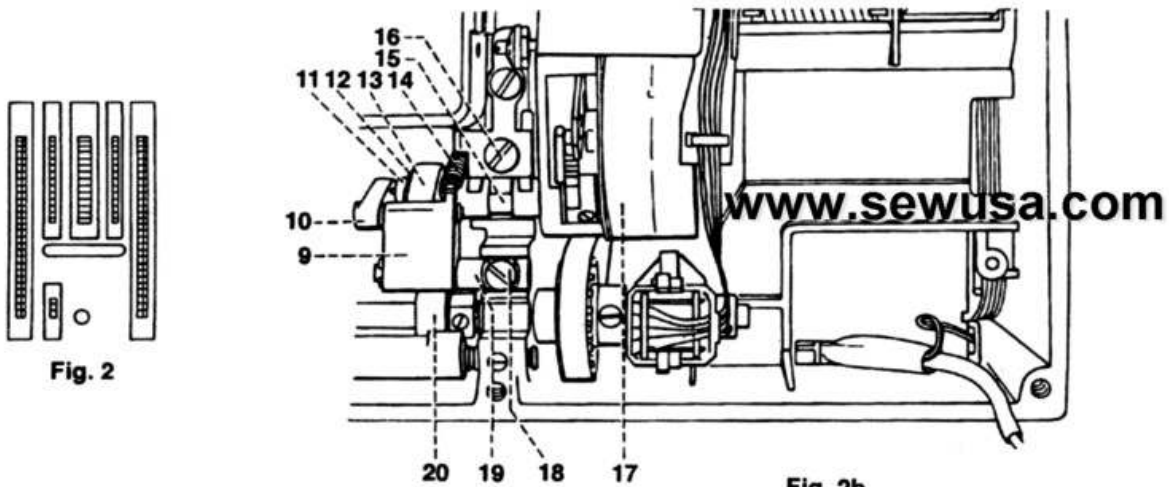

Fig. 2b
- Disconnect spring 14 (fig. 2b).
- Loosen screw 16 (fig. 2b).